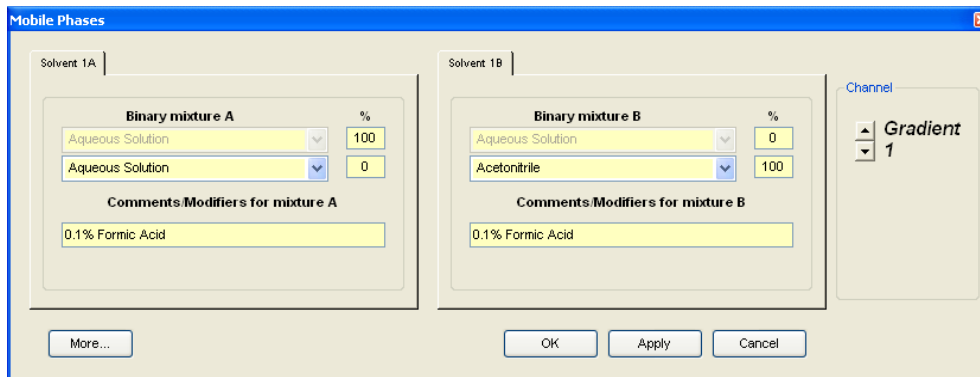

Figure 3-4 Mobile Phases Dialog
9. Select **System > Mobile Phases** from the main window of the Eksigent control software to display the Mobile Phases dialog (Figure 3-4).